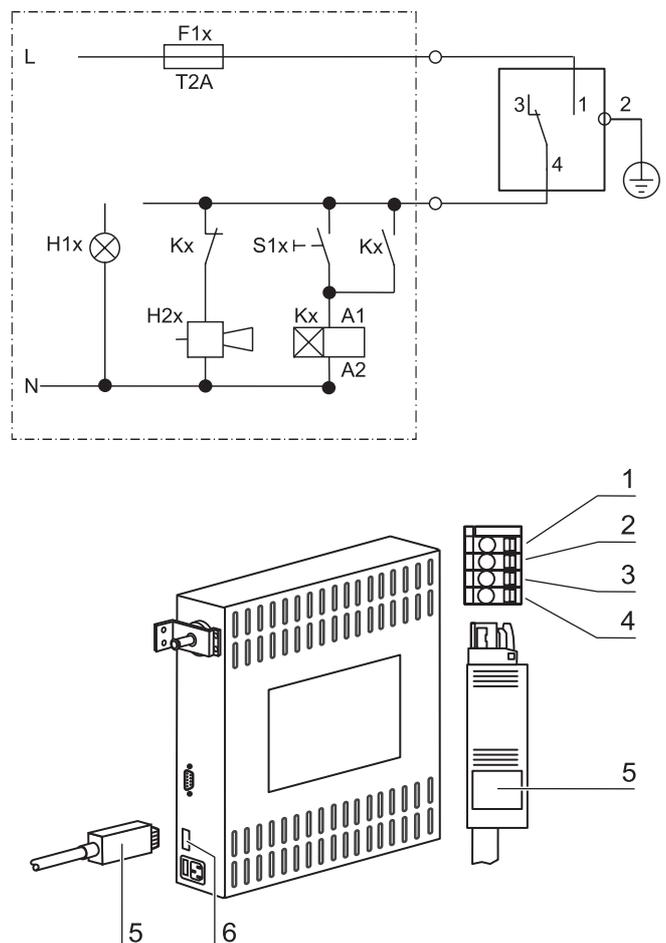

Fig.15: Example of a connection scheme
**Fig.15:** The connector [5] for the connecting cable is comprised in the scope of delivery. The values for the operating voltage of the external circuits and of the fusing of the alarm system are given in the table above.